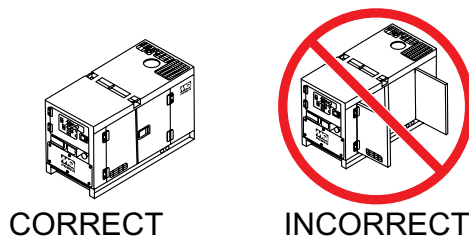

Figure 37. Engine Enclosure Doors
4. Close all engine enclosure doors (Figure 37).